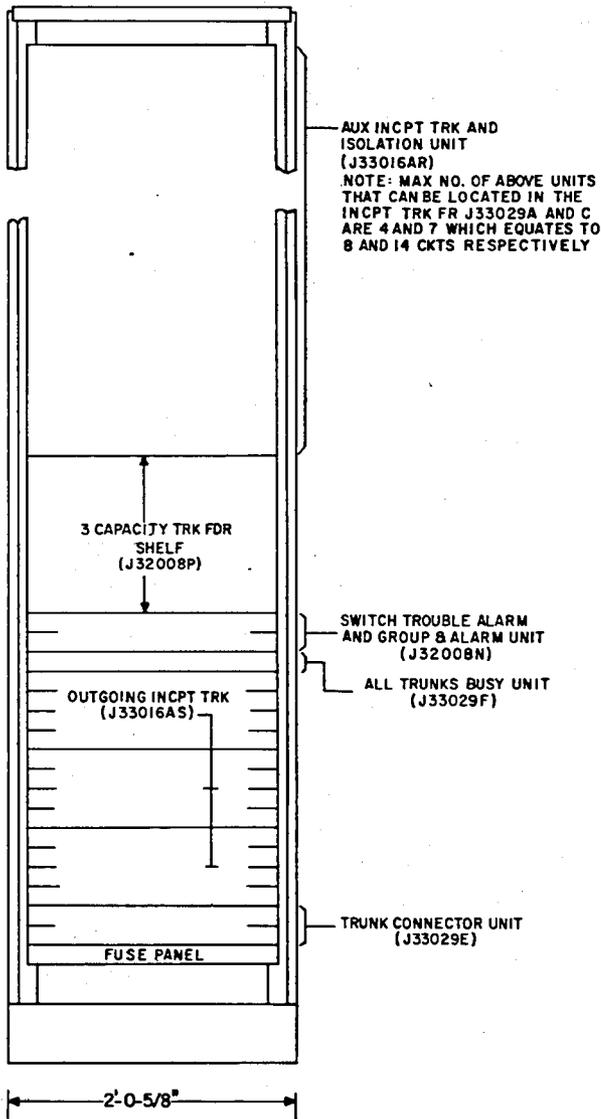

Fig. 1—Intercept Trunk Frame (3-Capacity Trunk Finder Shelf)—Typical Equipment Arrangement of J33029A (9 Feet 0 Inch) and J33029C (11 Feet 6 Inches)
1.03 The intercept trunk frame is available in both 9-foot 0-inch and 11-foot 6-inch configurations. The frame is always equipped with a fuse panel, a switch trouble alarm and group and alarm unit, an all-trunks-busy unit, a trunk connector unit, and either a 3- or 6-capacity trunk finder shelf. A typical arrangement of the frame is shown in Fig. 1 and 2. The auxiliary intercept units, which have an appearance on the banks of the trunk finder, are equipped as required. Each auxiliary intercept unit consists of 2 auxiliary trunk circuits and 40 isolation circuits (20 per each auxiliary trunk). The outgoing trunk units, which have an appearance on the jacks of the trunk finder, are also equipped as required. When the capacity of the frame for outgoing trunks and auxiliary trunk units is exceeded, the overflow units shall be miscellaneous relay rack mounted.